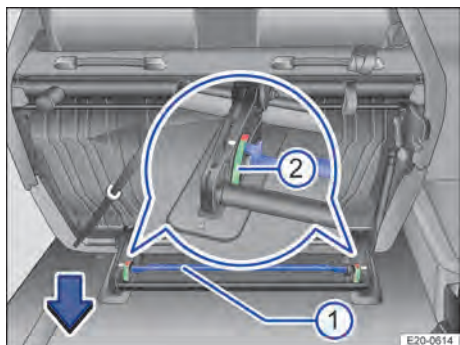

Fig. 71 Second row of seats: Installing the two-seat bench.
2. Press the rods → Fig. 71① downwards in the direction of the arrow until both locking marks ② are in the green area.